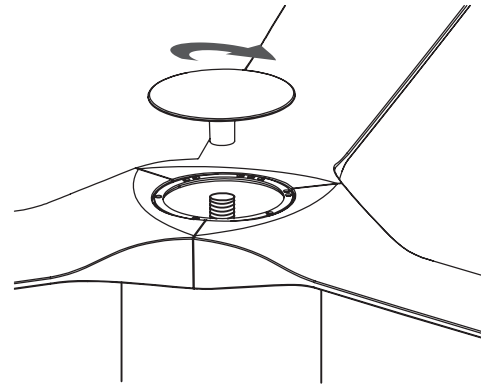

FIGURE 10
1. Tightly twist the decorative lower cap onto the motor assembly (Fig 10).